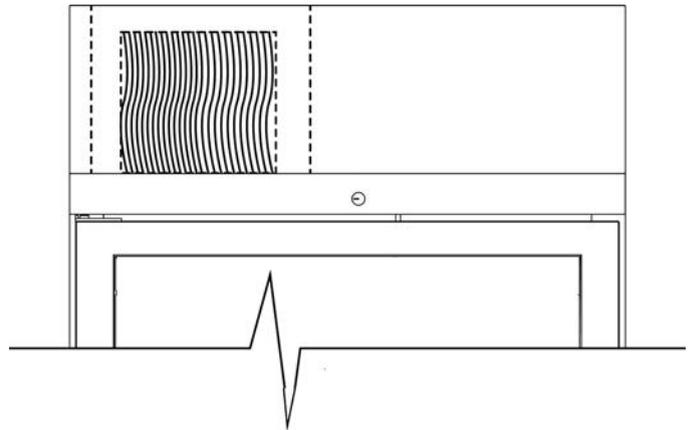

Fig 1: Location of Condenser
- The condenser is located on the left-hand side of the cabinet behind the front panel (**Fig 1**). To remove the front panel, lift it up to free it from the locating blocks. Once free, pull the panel carefully forward and away from the freezer to have full access to the condenser and would be able to clean it.